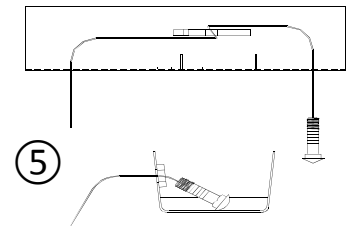

Figure 2
- Lower exhaust by removing the (2) 8mm bolts from the hanger bracket on both sides of the vehicle.
- Fishwire the 7/16" carriage bolts and spacers through the enlarged access hole and out the two side mounting holes in the frame rail, leave fishwires attached. See Figure 2.
- Sandwich (4) .25" x 1" x 1.5" spacers between hanger bracket and frame rail on both sides, and reattach the hanger bracket with the M8 bolts in fastener kit. Make sure the holes on hanger bracket and spacers line up for the bolt to go through.
1. Lower exhaust by removing the (2) 8mm bolts from the hanger bracket on both sides of the vehicle.
3. Fishwire the 7/16" carriage bolts and spacers through the enlarged access hole and out the two side mounting holes in the frame rail, leave fishwires attached. See Figure 2.